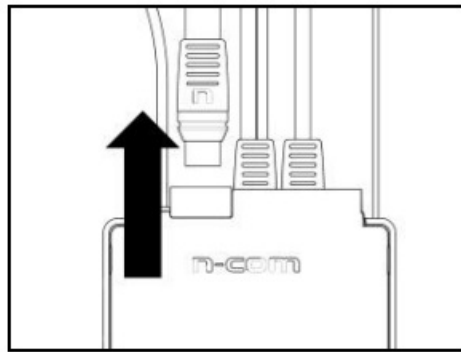

Fig. 49
- Remove the Flex of the keypad from the connector found on the e-box (Fig. 49).